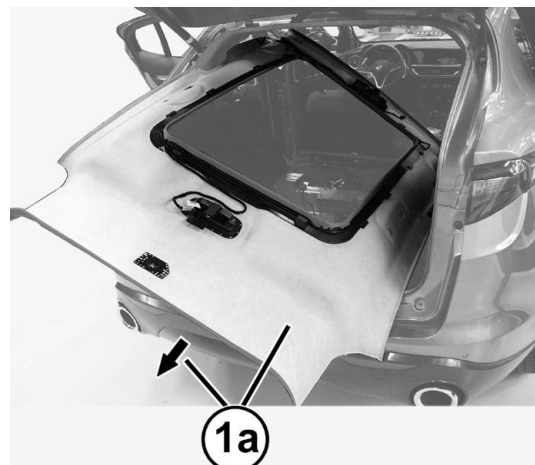

Figure 24 – Roof Lining
53. With the aid of a second operator, remove the roof lining (1a) from the vehicle, passing it through the tailgate frame the position shown in (Figure 24).
9. With the aid of a second operator, insert the roof lining in the vehicle, making it pass through the tailgate area, in the position shown in (Figure 24).